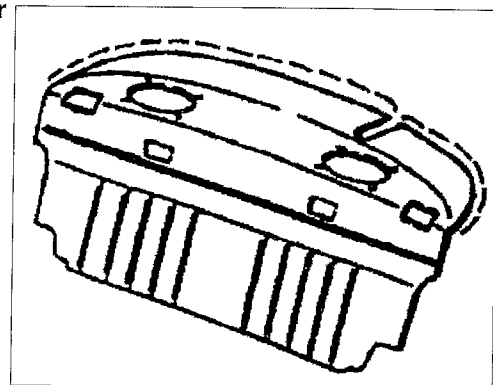

Figure 13
- Install a length of felt material, part number 993 555 545 00 onto the edge of the rear wall trim panel (Figure 13). As of Oct. 12, 1995, vehicles with leather covered rear wall trim panels have the felt strip installed in production form VIN: 99 5 TS 38 5091.